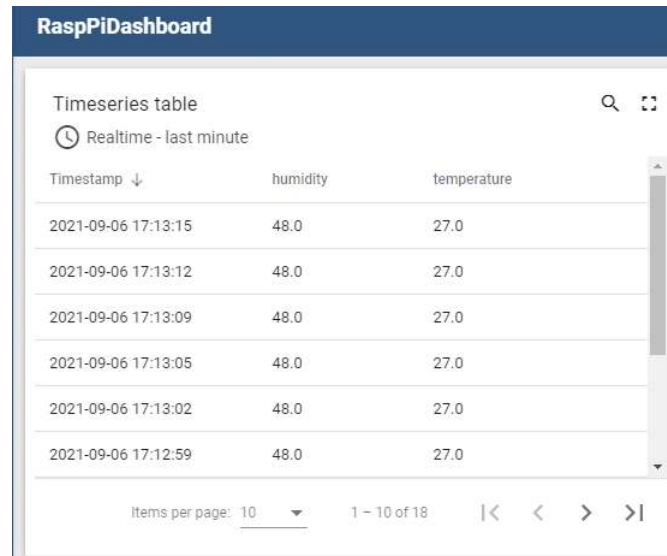

Figure 3.11: Observing Live Data on ThingsBoard
- The dashboard (Figure 3.11) updates in real time with incoming sensor readings.